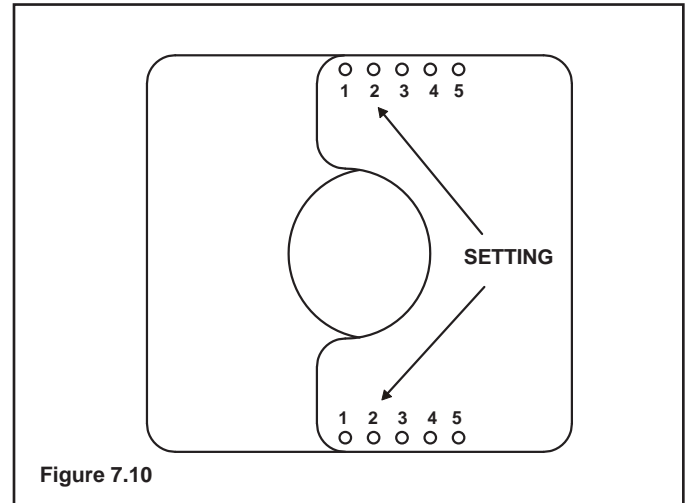

Figure 7.10
4. Center the Flue Restrictor on vent and secure in place by using two self-tapping screws (see Figure 7.10).